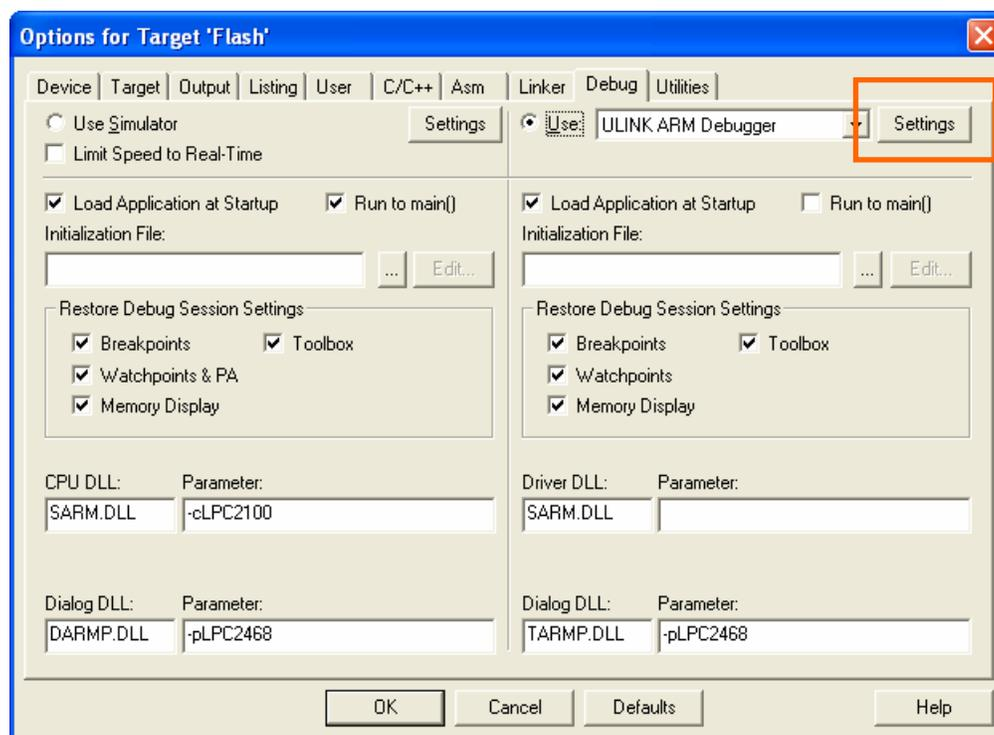

Figure 2-4. μVision3 Debug Options
1. Right-click on the target name, “Flash” in the Project Workspace and choose “Options for the target ‘Flash’”. Choose the “Debug” tab in the dialog box that appears, as shown in Figure 2-4. Choose the proper debugger (probably “ULINK ARM Debugger”).